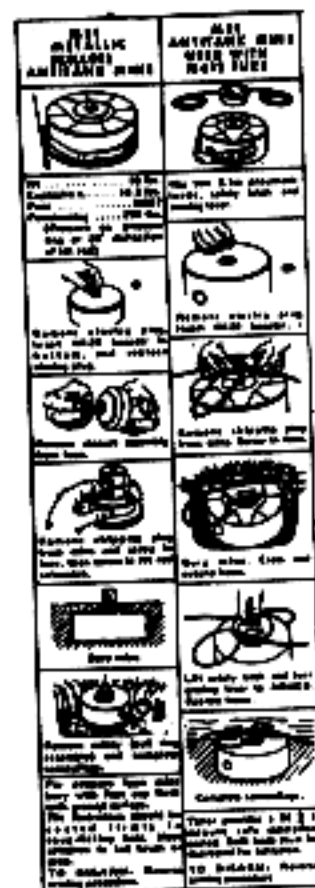

Figure 15-16. Anti-tank mines.
b. Anti-tank Mines (figure 15-16).